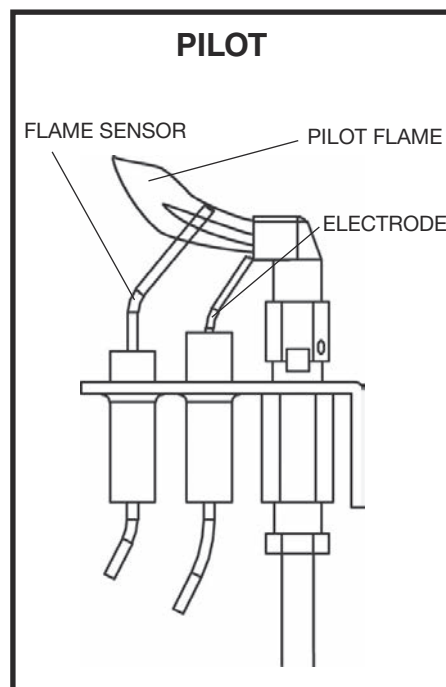
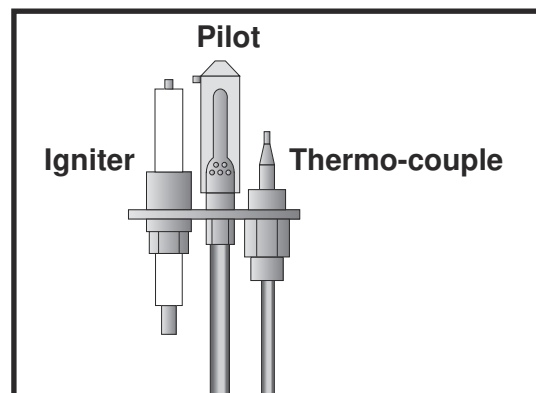

Figure 101: SIT pilot assembly.
Figure 102: Maxitrol pilot.
- Check the pilot system for proper flame size and operation. Clean pilot free of soot, dust or any other deposits (Figure 101 and Figure 102). Have a qualified service person adjust the pilot flame.